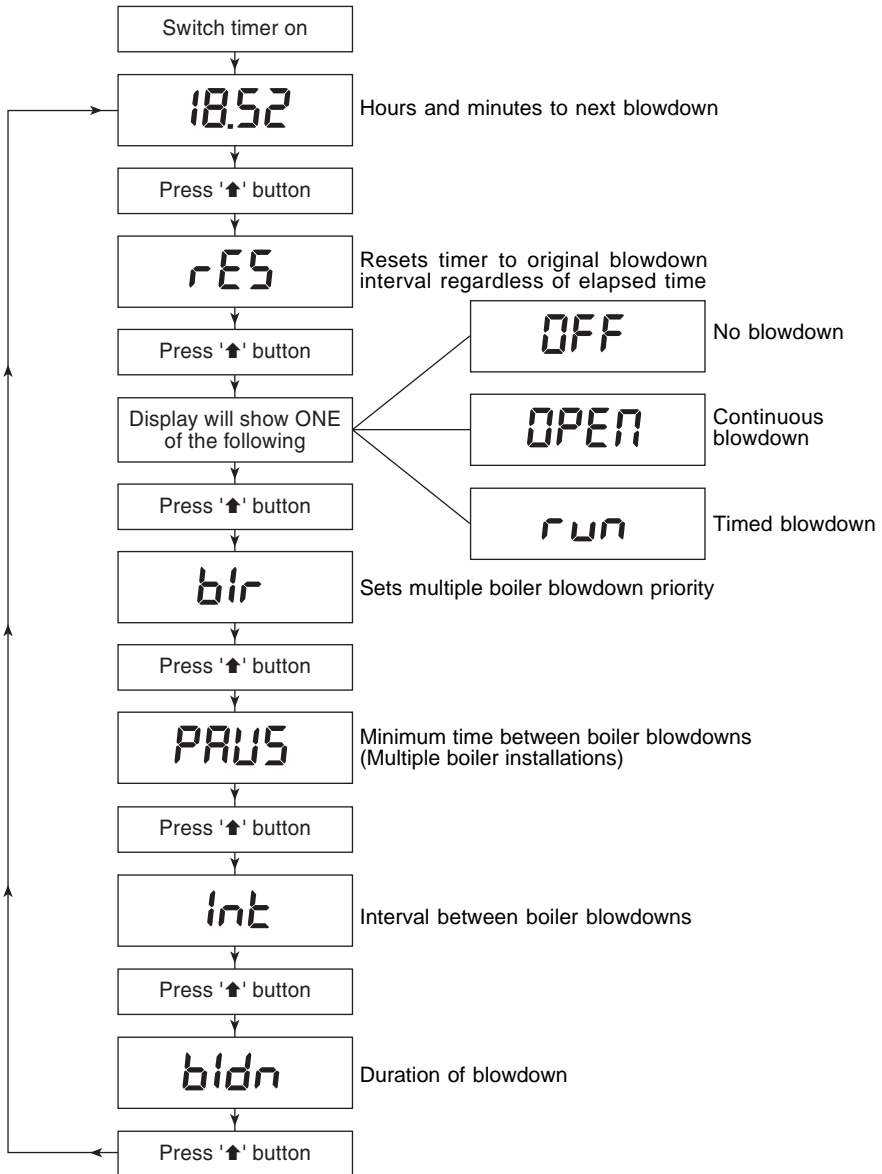

Fig. 6
The timer has a simple 'menu' system for setting the different functions. The items are organised as shown in Figure 6, and are displayed by pressing the '▲' button.
- Following Figure 6, press the '▲' button to step through the menu.